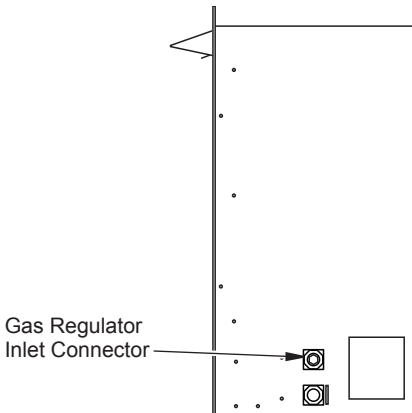

Figure 14 - Gas Regulator Location and Gas Line Access into Stove Cabinet
1. Remove bottom screw from cover plate located on right side of heater (see Figure 14, page 14). Rotate to expose fuel selection device.